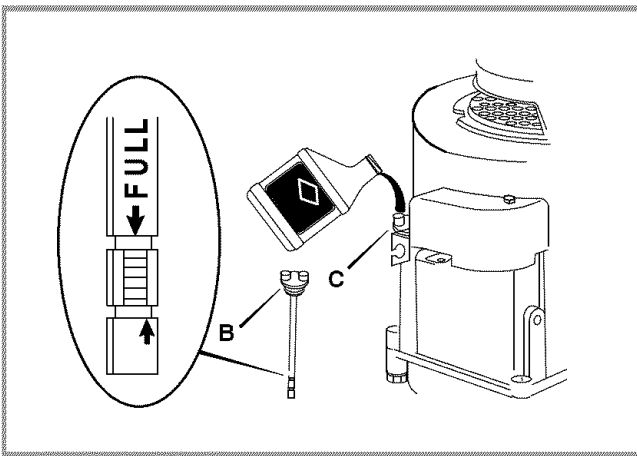

Figure 21: Oil Fill
- 9 Before checking the oil level, wait 2 minutes for the oil to drain out of the oil fill. Then, install the dipstick and check the oil level. Make sure the oil is at the FULL mark shown on the dipstick (see Figure 21). Do not overfill.
- 7 Remove the dipstick (B) from the engine oil fill (C). Wipe the dipstick with a clean cloth.